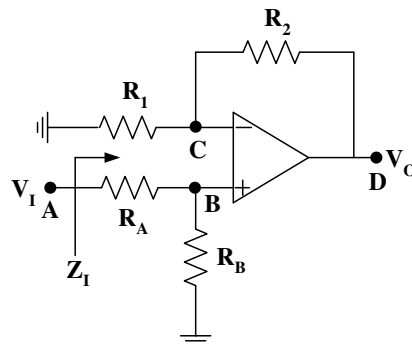

Figure 3. A non inverting amplifier circuit using 741 Op Amp.
2. **DESIGN OF AMPLIFIER CIRCUIT:** Design the non inverting amplifier circuit as shown in Figure 3 (determine the values of the resistors) so that the closed loop gain is $\frac{V_o}{V_i} = \frac{R_2}{R_1} = 5$. The available set of resistance that you can use is 100Ω , $1K\Omega$, $2.2K\Omega$, $3.3K\Omega$, $5.6K\Omega$, and $10K\Omega$. For design safety, take R_2 as high as possible. For proper operation of the amplifier circuit, assume that $R_A = R_1$ and $R_B = R_2$. In your design, if exact value of resistance is not available, choose the nearest one. With your design, set V_i
6. Set up the circuit as shown in Figure 3 using the resistances from your prelab design. Use a +15V DC power supply to terminal 7 and -15V DC power supply to terminal 4 of the Op Amp from the digital trainer board.